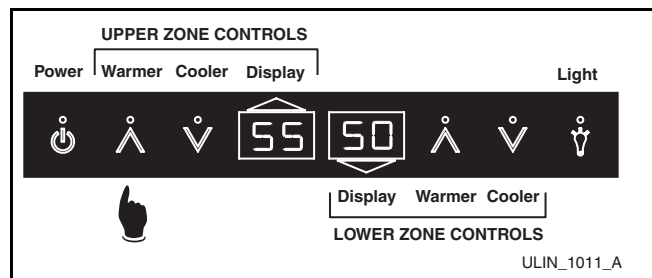

Figure 25. Displaying Zone Temperature
1. Press and hold the WARMER icon for the desired zone for approximately five seconds until unit beeps, and release when the decimal in the display begins to flash (**Figure 25**).